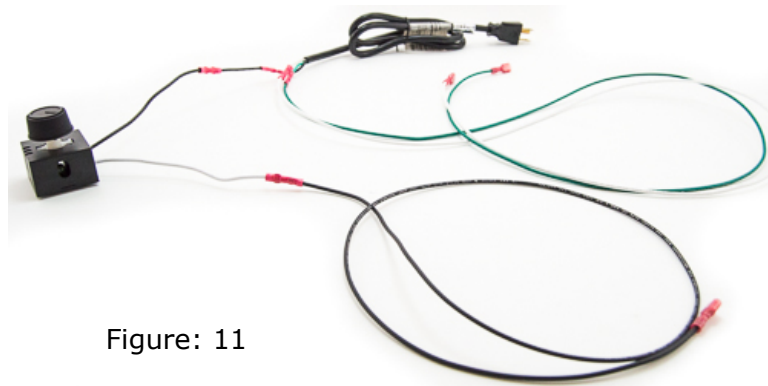

Figure: 11
**Step 4.B:** Take knob off Variable Speed Control and use 11/16 wrench/socket to remove lock nut, take off face plate, put nut and knob back on. (Figure: 11)